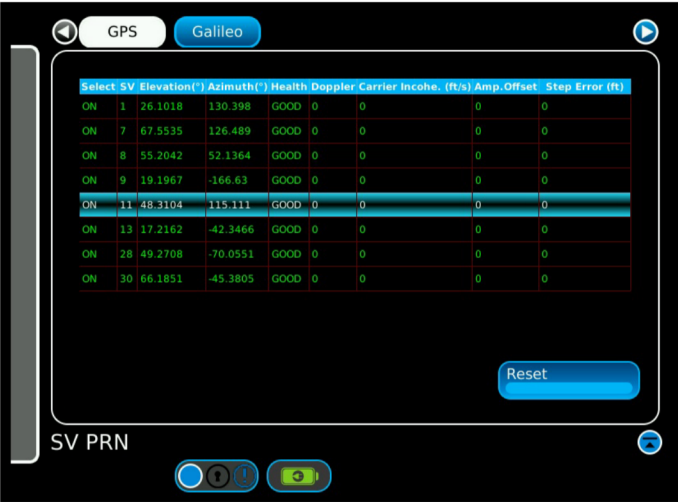

Figure 3. SV PRN Screen
To simulate a space vehicle (SV) broadcasting erroneous data, select SV PRN from the side menu. The SV PRN screen will appear. See Figure 3.